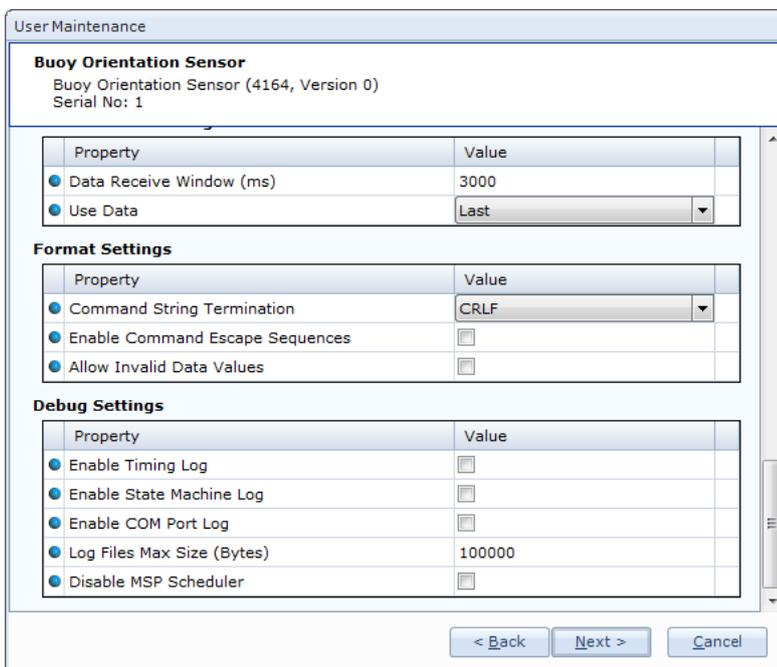

Figure 6-7 User Maintenance > sensor
- Perform sensor **User maintenance** settings: Refer chapter 4.3 for a short description. User Maintenance holds properties necessary to operate the sensor in accordance with the way the user has chosen to apply the actual sensor: open **Device Configuration** tab, check **Include User Maintenance** and press **Get Current Configuration** then press **Edit..** in the User Maintenance heading, select the actual sensor in the sensor list and press **Configure Selected....** Refer Figure 6-7 User Maintenance > sensor Figure 6-7 and Table 6-1 for a description of settings; refer TN 362 for some sensor examples.